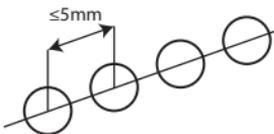

Figure 3
- Continuous measurement (scan):** Continuous measurement method involves taking continuous measurements along a specified line according to the single measurement method, at intervals of 5mm or less (Figure 3). Take the minimum indicated value as the thickness of the material.